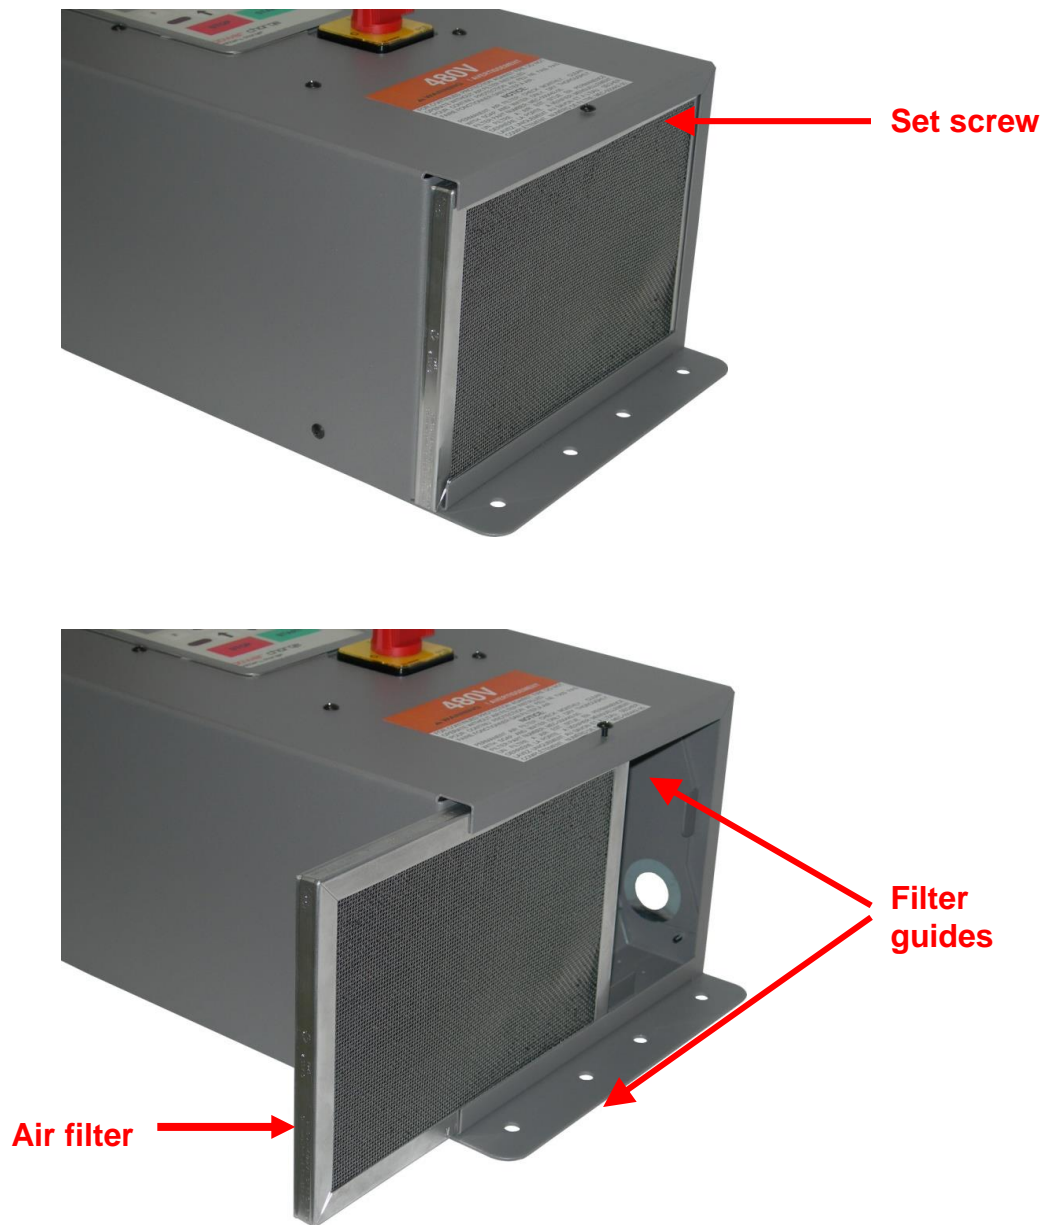

Figure 8: Installing/reinstalling the air filter
To inspect the filter, **remove the set screw** (Figure 8) at the bottom center of the chassis front, grasp the filter on the left side, and slide out.
To reinstall, slide the filter into the guides and push in until fully seated; replace the screw (Figure 8).
11. Reinstall the air filter (Figure 8).